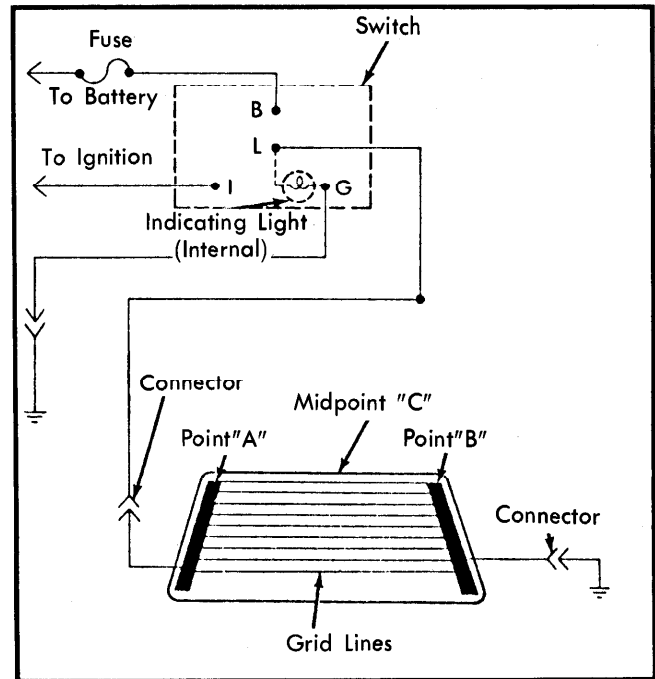

Fig. 2 Heated Rear Window Wiring Diagram
3) If system still does not operate, check leads and grid lines at rear window. Turn ignition and control switches on; attach a voltmeter between points "A" and "B" (see Fig. 2). Voltage reading should be 10-14 volts, if lower, check ground connections. With voltmeter connected at "B", measure grid voltages at midpoint "C". Voltage should be approximately six volts, a reading of zero volts indicates a break between point "A" and midpoint "C". A reading of 12-13 volts indicates a break between midpoint "C" and "B".